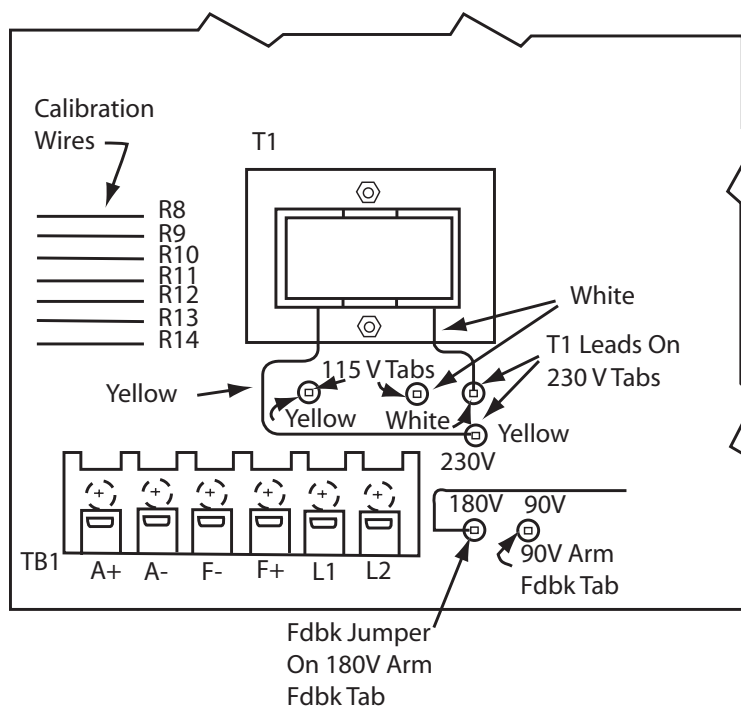

Figure 3. Main Board Connections
5. Remove the proper calibration wire(s) from the controller main board with a wire cutter, as shown in Table 6 and Figure 3.
6. Be sure the main board is connected for the correct voltage. Figure 3 shows the main board connected for 230 volt operation. For 115 volt operation, the yellow and white leads on Transformer T1 connect to the 115V tabs, and the feedback jumper connects to the 90V ARM tab.